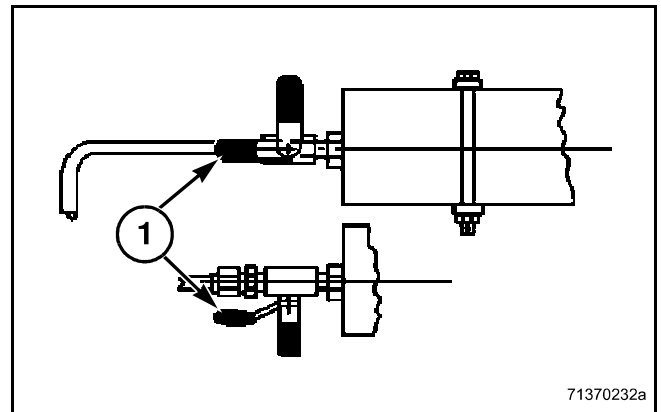

FIG. 363
FIG. 363: With the accumulator shut off valve in the open position (1) (turned fully counterclockwise) and the machine on level ground, start the engine. Raise the header to the top position and hold the header lift switch in the raise position for five seconds.